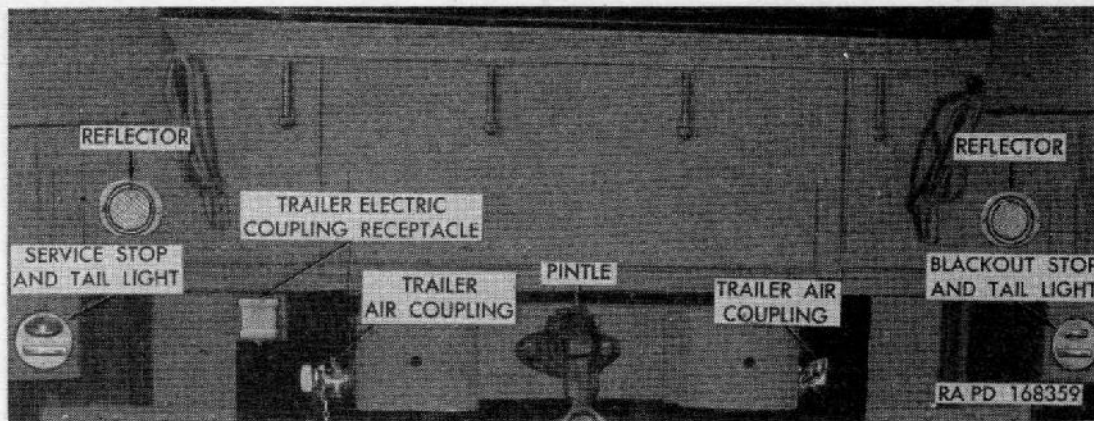

Figure 126. Trailer connections.
- (6) *Trailer-coupling receptacle* (fig. 126). A 12-pin trailer-coupling receptacle is mounted at rear of truck behind left splash shield on M34 and M36. On M47 and M59, it is mounted on the rear cross member of sub-frame. This receptacle provides means of connecting stop and tail lights on trailers with those on truck.
(fig. 126)